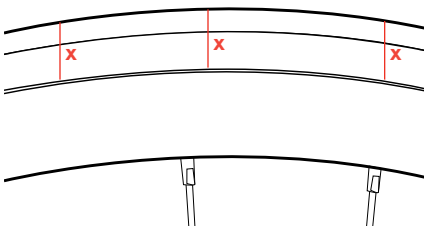

Figure 18. Correct. Make sure the mold line of the tire is equal (X distance) with the rim all the way around.
10. Check for correct tire bead engagement in the rim (Figure 18 and 19). Most tires have a mold line near the bead of the tire where it engages the rim. All the way around the rim, the distance between the mold line and the top edge of the rim must be even and equal. If the distance is not equal, deflate the tire and repeat this procedure.